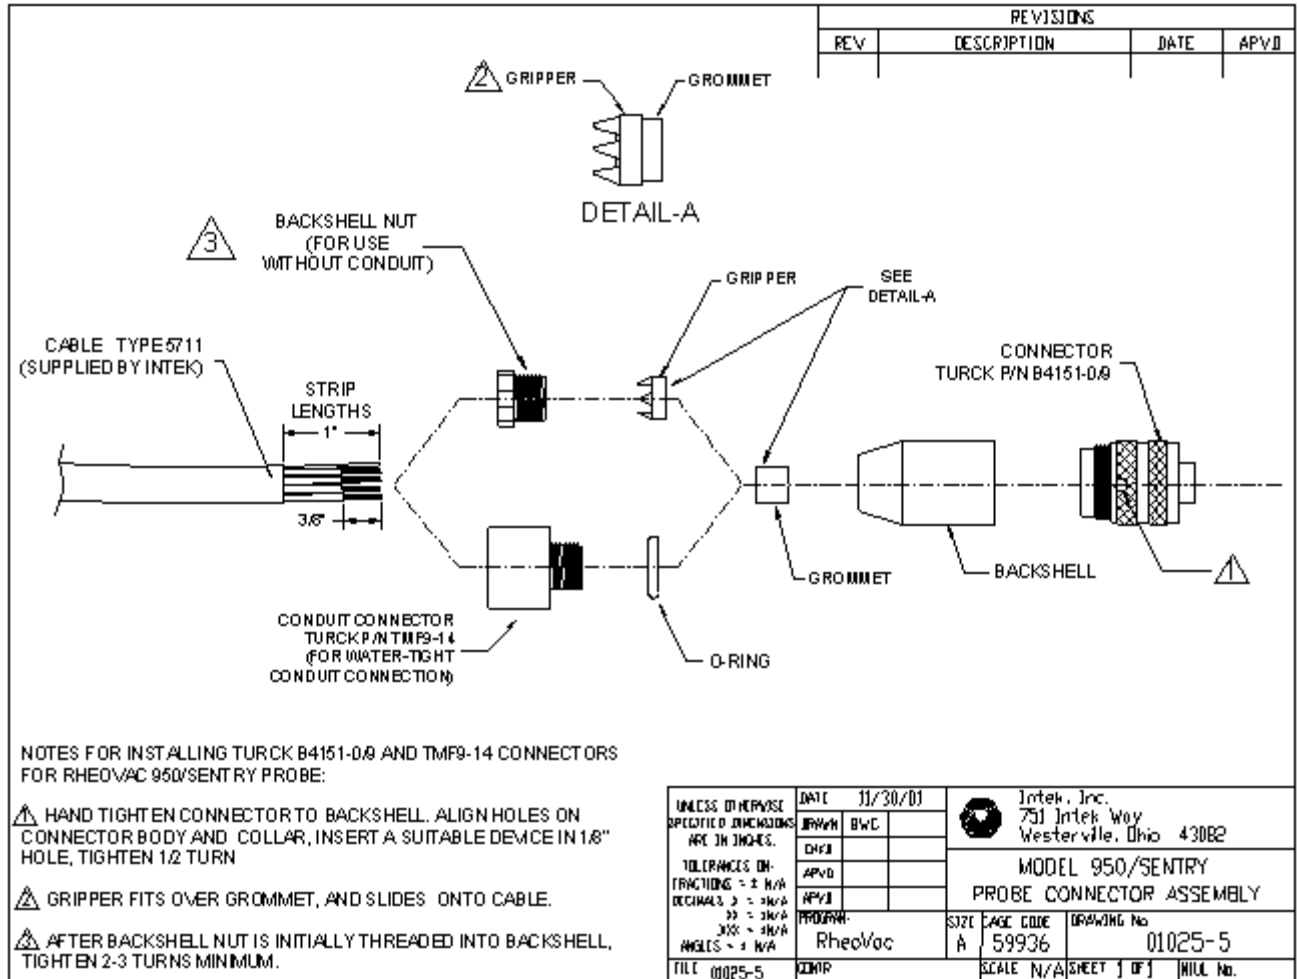

Figure 10 Probe Connector Assembly
The *RheoVac* probes require special connectors to be installed on the supplied DeviceNet type 5711 cable sections that go from the Distribution Box(es) to the probes. The probes have the male mating connectors already installed. These connectors will use either the “backshell nut” or “conduit connector” (see Figure 10) depending on whether the cable is installed in a liquid-tight conduit. When installing without conduit, use the backshell nut; when using liquid-tight conduit, use the conduit connector with o-ring.
6. Reassemble the connector parts (Figure 10).